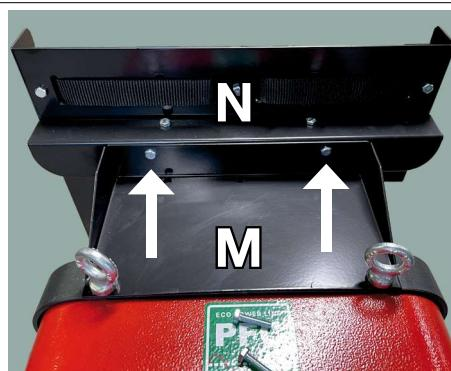

Fig. 20
Unire la flangia superiore (M) al supporto (N) (fig.20)
Join the upper flange (M) to the support (N) (fig.20)
Unir la brida superior (M) al soporte (N) (fig.20)